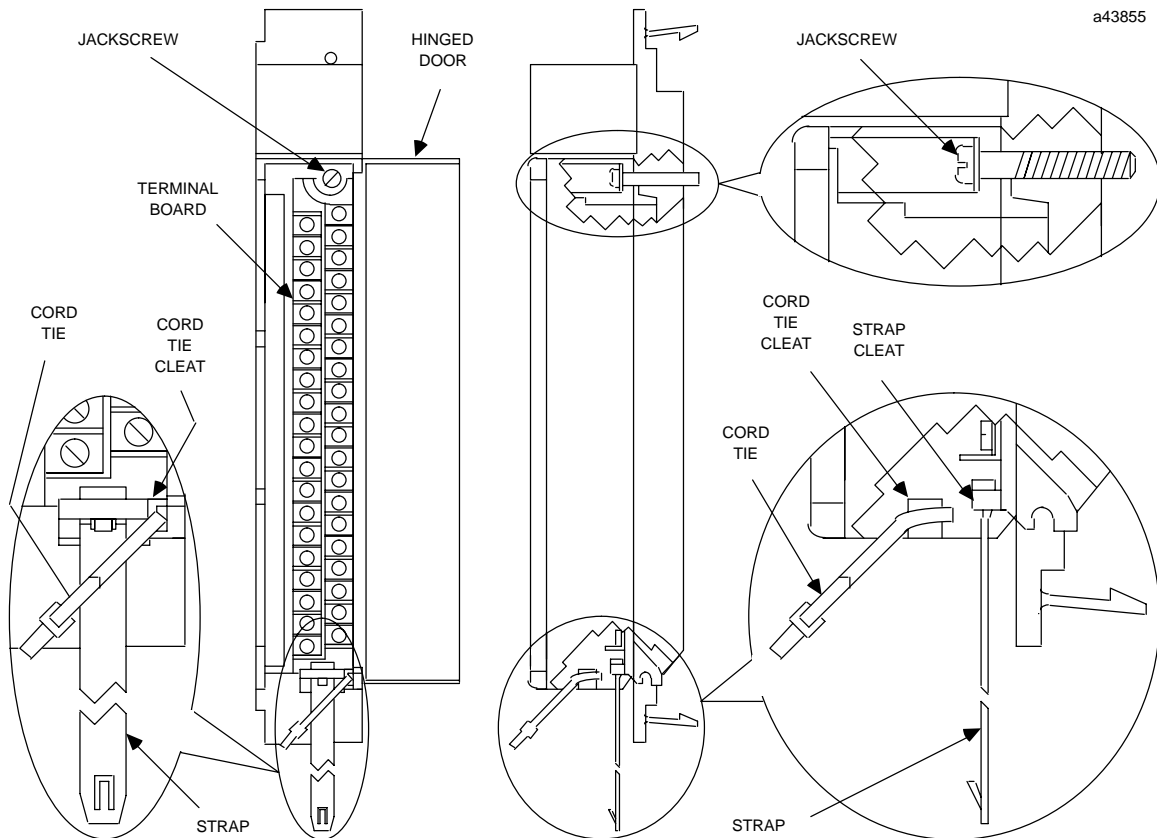

Figure 3. I/O Module Features
2. To remove the terminal board, grasp the top of the terminal board and swing it outward as shown in Figure 3.
4. The terminal board is designed to accept a maximum of (40) AWG #14 (2.10 mm²) wires. If AWG #14 (2.10 mm²) wires are to be used, then wire markers should be placed at least 8 inches (203 mm) from termination end to provide sufficient space for the hinged door to close.